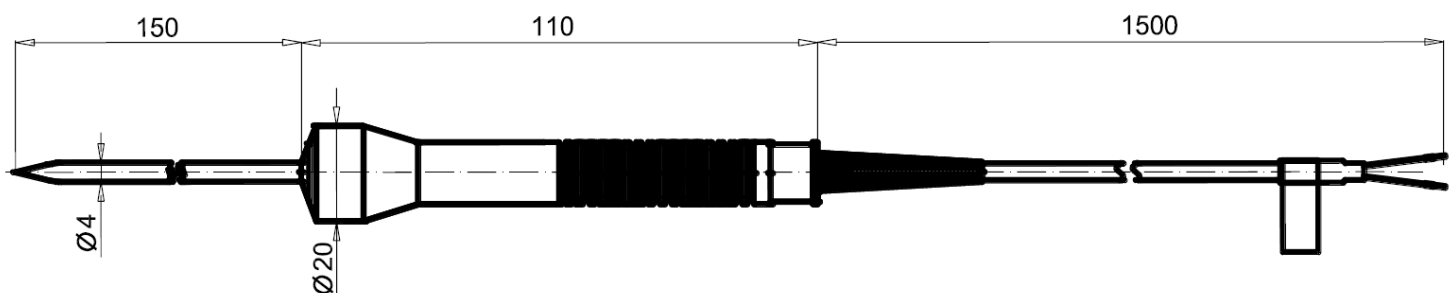

Fig. 2 – The appearance and overall dimensions
**5.6** The appearance and overall dimensions are shown in Figure 2.